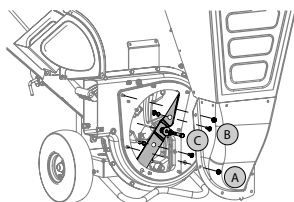

Figure 10
4. Remove six flange nuts which secure hopper inlet guide to impeller housing. See A in Figure 10.
7. Remove the two internal hex screws, hex lock nuts and lock washers which secure the shredder blade to the impeller. See B in Figure 10.
8. Remove the hex bolt, lock washer and flat washer to completely free shredder blade. See C in Figure 10.